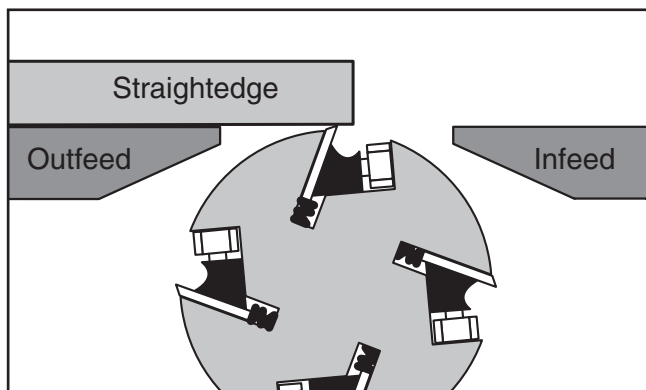

Figure 45. Using a straightedge to align outfeed table height with knife at TDC.
3. Raise or lower the outfeed table until the knife just touches the straightedge (**Figure 45**).